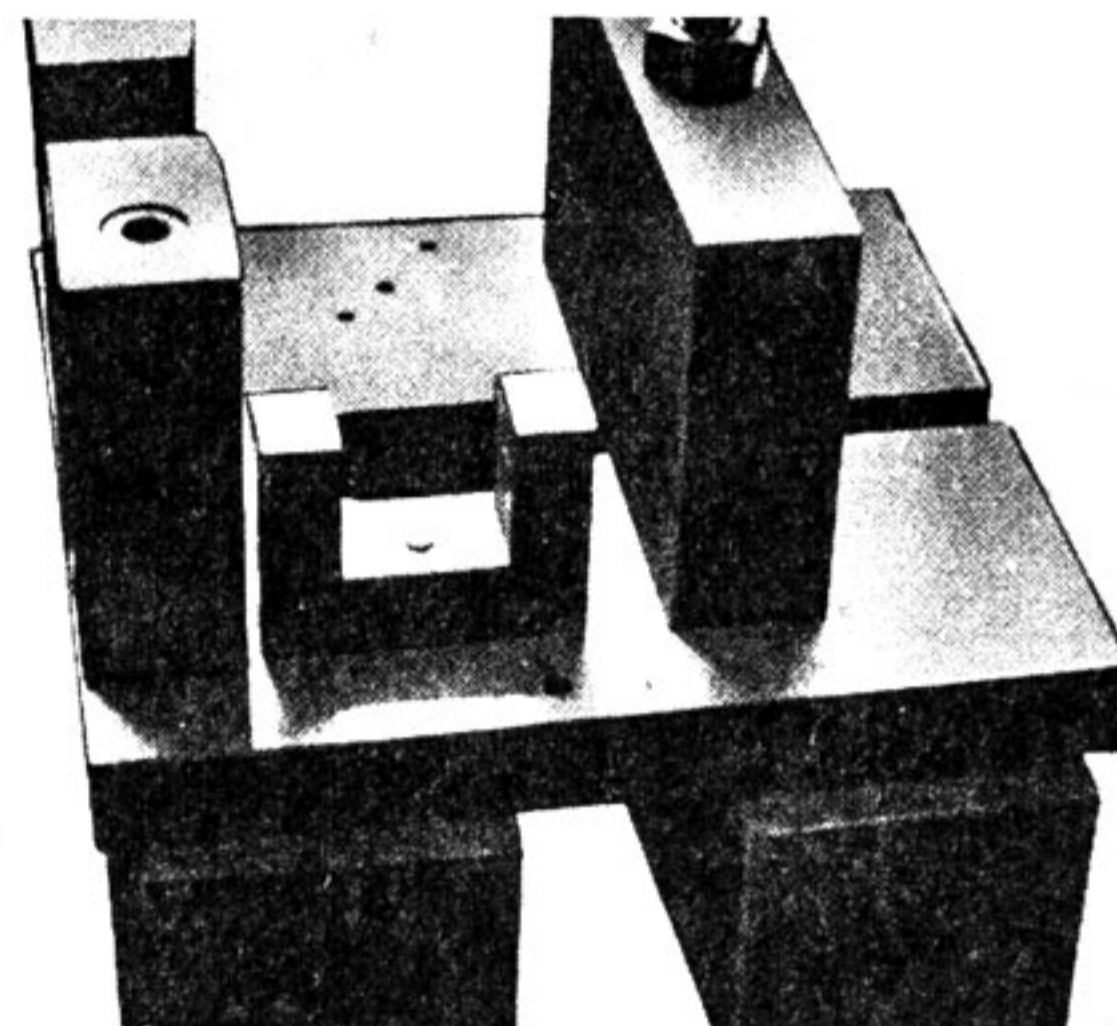

Fig. 4-17-12
- (1) Install Tool No. 6 (used to space the crankshaft, ass'y) on Tool No. 1. (Fig. 4-17-12)